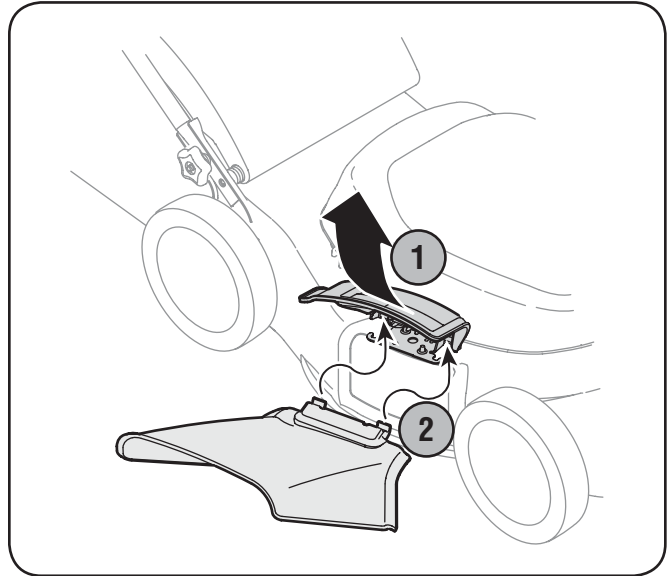

Figure 3-7
2. Slide chute hooks under hinge pin on mulching plug assembly. Lower mulching plug. See Fig. 3-7.